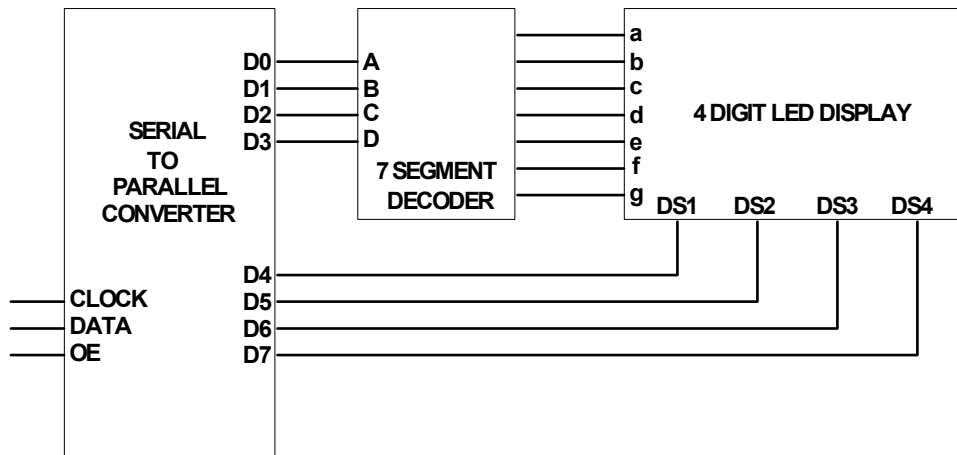

Figure 1. Block Diagram
Figure 1 shows the block diagram of the set up. The PSoC generates three signals; Clock, Data and Output Enable (OE) to the serial to parallel converter. The lower nibble of the output of the converter is the BCD input to the 7-segment decoder. The higher nibble of the output is used to drive the individual displays.